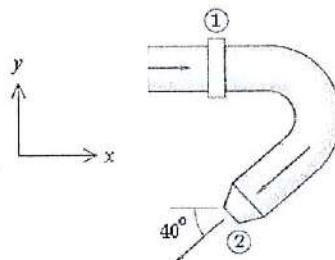

Figure 6 / Rajah 6
c) Water flows through the horizontal elbow in **Figure 6** and exits to atmosphere. The pipe diameter $d_1 = 10 \text{ cm}$ while $d_2 = 3 \text{ cm}$. At flow rate of $0.0153 \text{ m}^3/\text{s}$ the pressure at section 1 is 2.33 bar. If the weight of water and elbow is 30 kg, determine the magnitude and direction of force to hold the pipe in place.